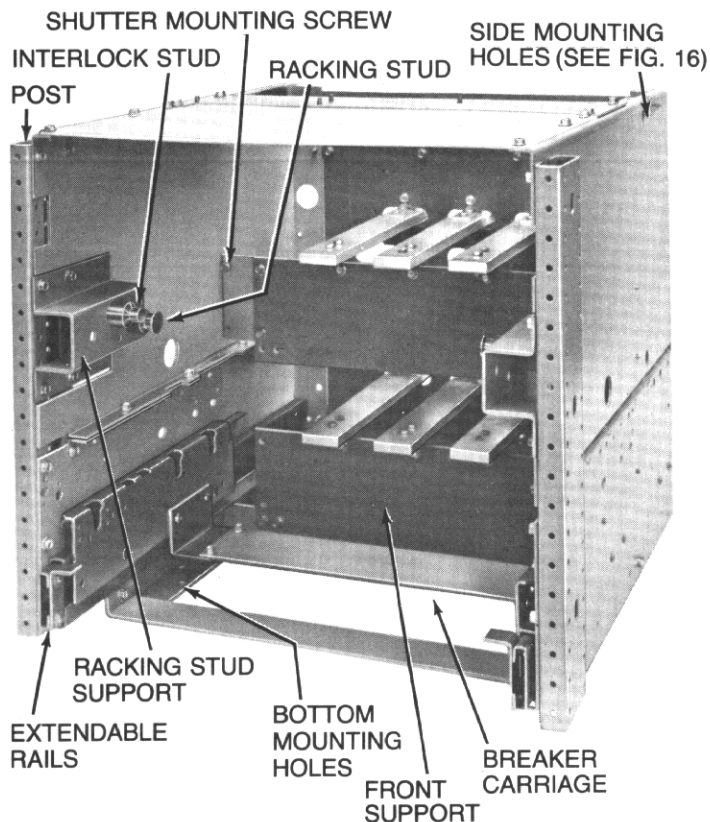

Figure 1
The substructure, Figure 1, is a self-contained framework suitable for installation in separate compartments of a switchboard and serves as a receptacle for AKR-30S or AKRU-30S circuit breakers.
The substructure is designed to be placed on a level shelf or appropriate supports. Fasten securely with at least (2) $\frac{1}{2}$ " bolts, nuts, and lockwashers each side through the holes shown in Figure 1 and located on the outline drawing, Figure 16.